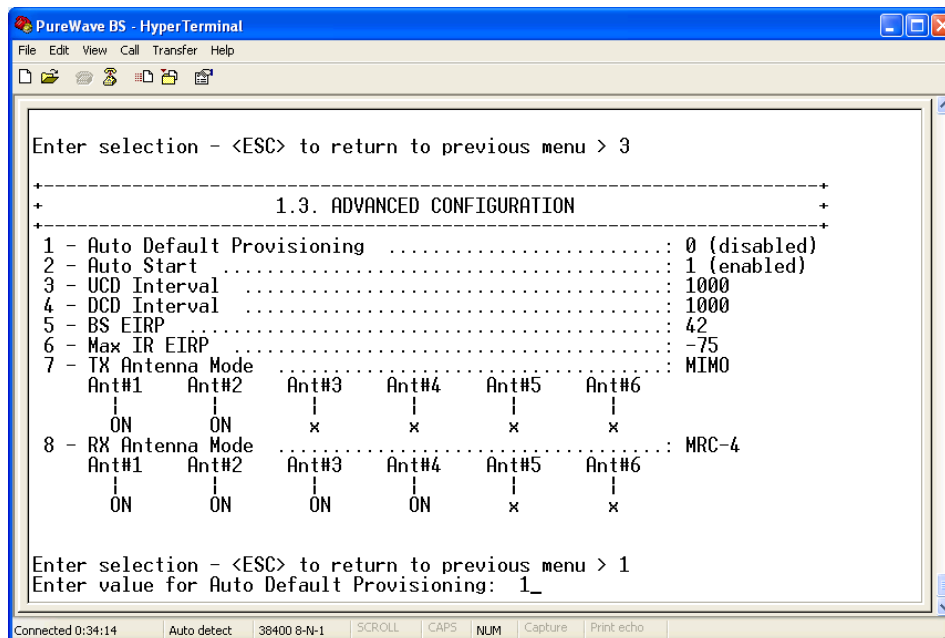

Figure 63 - Base Station CLI Advanced Configuration
- 8) Select #3 (*ADVANCED CONFIGURATION*) from the *1.1 BASIC CONFIGURATION* menu and verify the following two settings (figure 63).